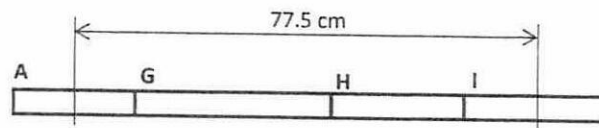

Figure Q1.2
- (ii) The compound gear is changed to simple gear train comprise of four gear A, G, H, and I as in **Figure Q1.2**. If the gear ratio and the efficiency is the same determine the radius of gear G, H and I.